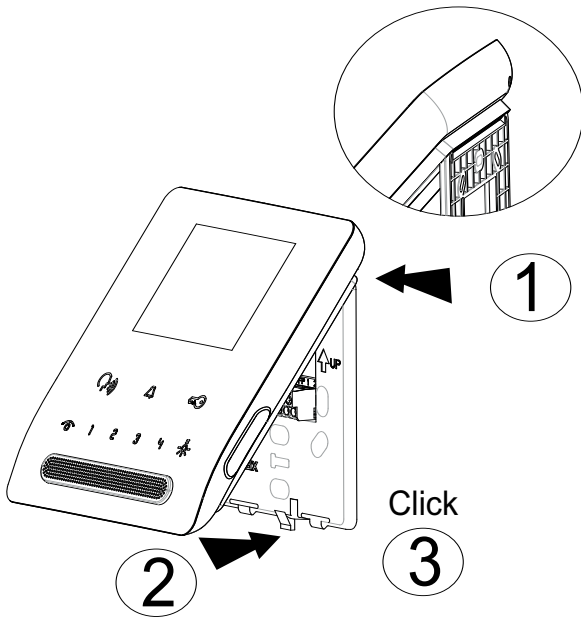

Fig. 7
4. Install the indoor station on the plate (Fig. 7)